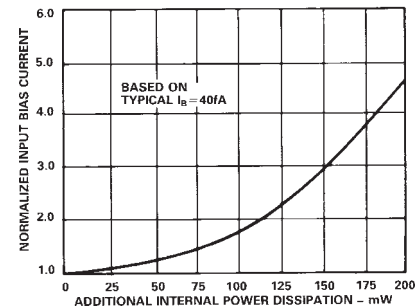

Figure 9. Input Bias Current vs. Additional Power Dissipation
3. Output loading effects, which are normally ignored, can cause a significant increase in chip temperature and therefore bias current. For example, a 2 kΩ load driven at 10 V at the output will cause at least an additional 25 mW dissipation in the output stage (and some in other stages) over the typical 24 mW, thereby at least doubling the effects of self-heating. The results of this form of additional power dissipation are demonstrated in Figure 9, which shows normalized input bias current versus additional power dissipated. Therefore, although many dc performance parameters are specified driving a 2 kΩ load, to reduce this additional dissipation, we recommend restricting the load resistance to be at least 10 kΩ.